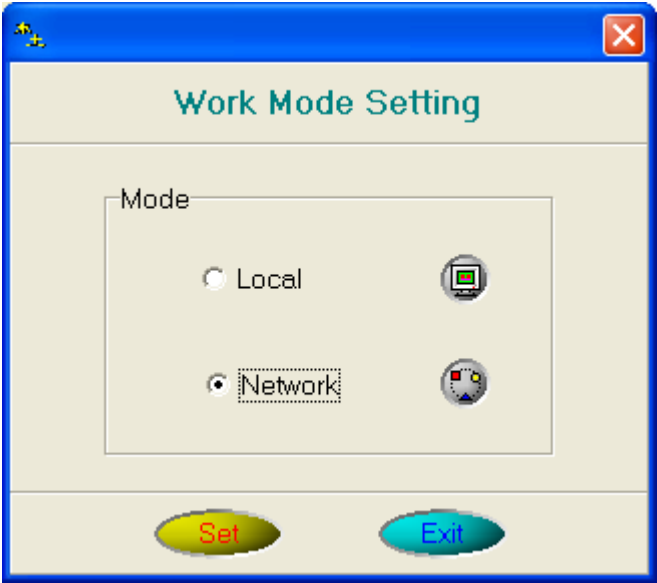

Figure 24 Work Mode Setting
2. Open the Network Management interface. Set the work mode to Network, as shown in Figure 24.